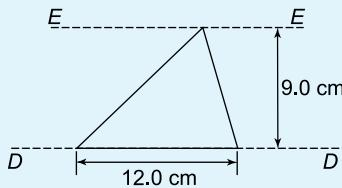

Figure 8.20
2. Determine the second moment of area and radius of gyration for the triangle shown in Figure 8.20 about (a) axis DD (b) axis EE, and (c) an axis through the centroid of the triangle parallel to axis DD.